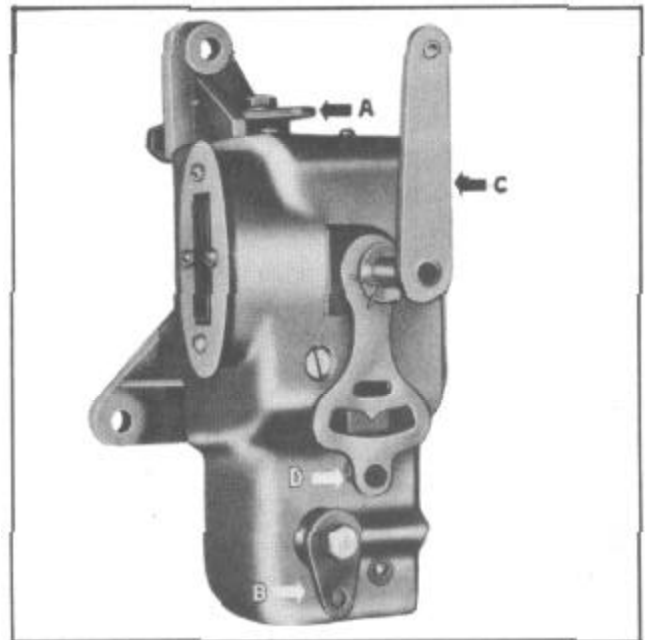

FIGURE 8
The control switch, Figure 8, bolted to the power unit bracket on the left side of the engine, contains the mechanically operated switches used to control the Drive-Master.
(A) THE TRANSFER SWITCH, Figure 8, is located at the top of the transmission switch and is operated by a non-adjustable link connected to the transmission cross shift selector lever.